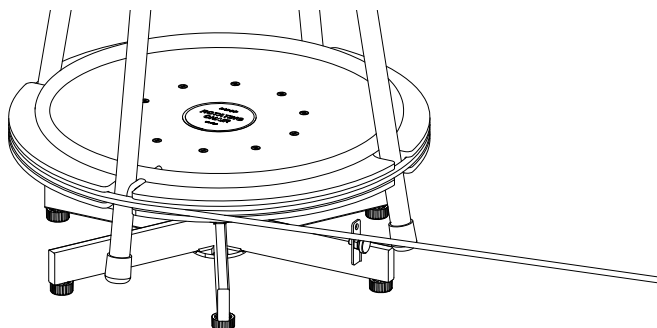

Figure 2
1. Slip one end of the rope or cord between the foot rung and the platform, then wind the desired length of the rope in the groove, as shown in Figure 2.